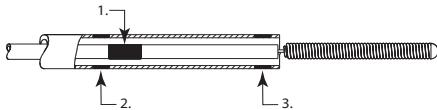

Figure 2
- Continue to advance the Axium™ Prime Detachable Coil until the coil alignment marker of the implant pusher is just distal of the proximal marker of the microcatheter (See Figure 2).